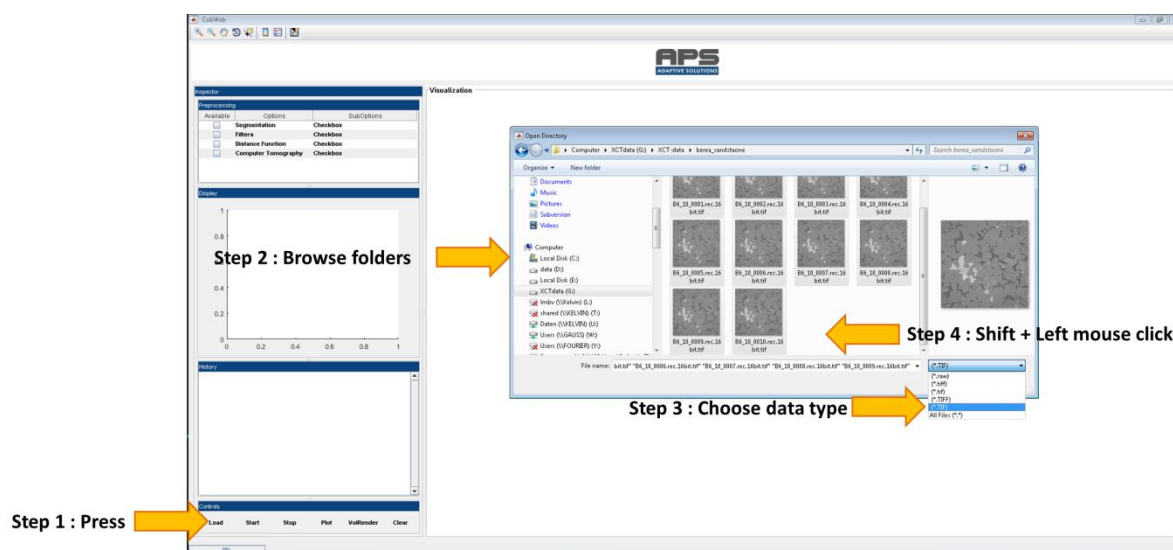

Figure 15: The figure schematically denotes the steps to load TIFF files in to CobWeb 1.0
- Step 1 (Figure 15): **Left click** the **Load** button. This will open a file explorer panel.
- Step 2 (Figure 15): Browse to the location of the TIFF files.
- Step 3 (Figure 15): From the drop-down menu, choose either TIFF file type or the All files option to display tiff files or all files, respectively.
- Step 4 (Figure 15): By clicking the Shift key on your keyboard + left click, the desired number of slices can be selected. Then click on the OK button on the explorer panel.